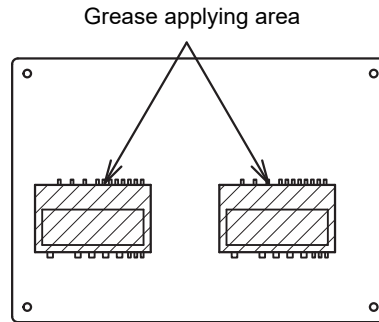

Fig.5 FAN-IPDU P.C. board (Back side)
2. Apply heat dissipation grease evenly to area shown in Fig.5 of substitute P.C. board. This area is contact surface of IPM (IC701, IC750) with the heat sink, and make sure that no impurities such as dust adhere to this area while applying.